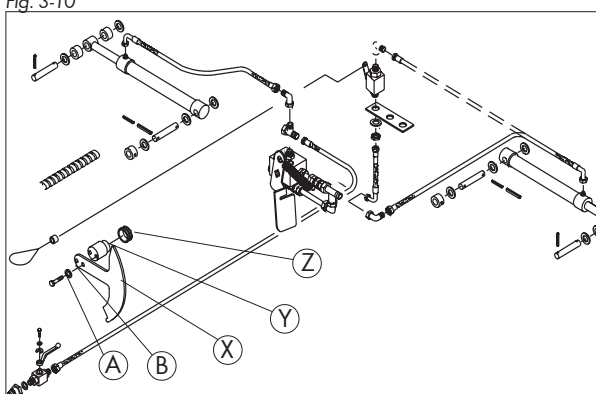

Fig. 3-11
Mount control segment (X) with spacer (Y) and sealing ring (Z) using screws (A) and washers (B) (fig. 3-11).